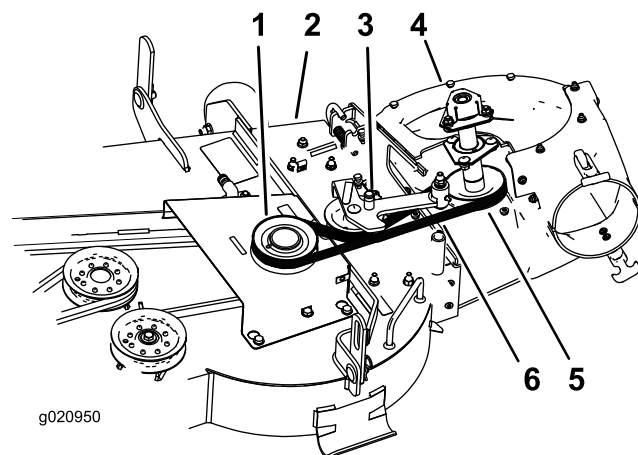

Figure 29
4. Pull back on the spring-loaded idler pulley to relieve the belt tension (Figure 29).
8. Install the new belt around the blower pulleys (Figure 29).
10. Install the new belt around the mower-deck pulley (Figure 29).
13. Pull back on the spring loaded idler pulley and install the belt onto the spring loaded idler pulley (Figure 29).